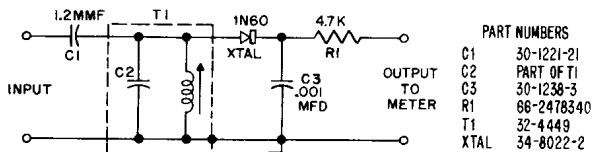

Figure 1. 4.5 mc. Detector Tube
- (1) Inject 4.5 MC AM signal into L17 or use station signal.
- (2) Connect 4.5 MC detector (see circuit, figure 1) to L10 (Pin 7 of CRT).